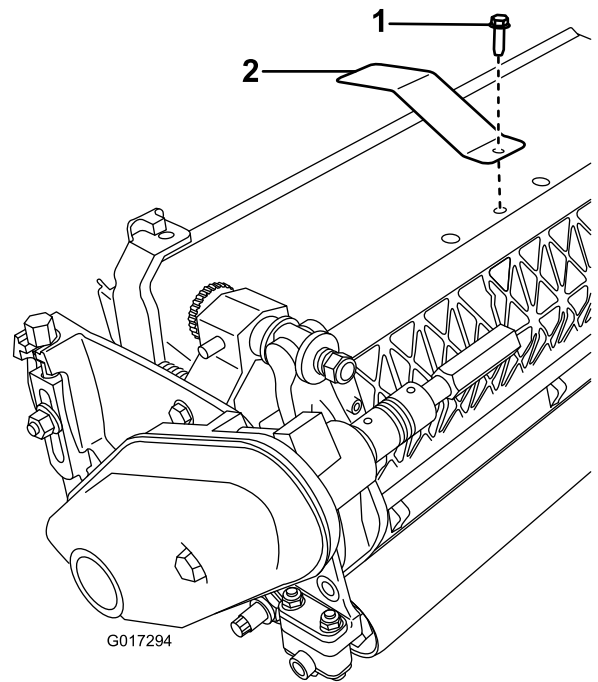

Figure 13
2. Remove the center, grass-shield bolt (Figure 13).
3. Install the target plate to the top of the cutting unit (under the plastic cowling) using the bolt you removed previously (Figure 13).